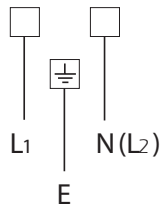

Fig. 6
- 3 Connect the new supply cable, of suitable type and section, to the terminal board following the diagram in Fig. 6.